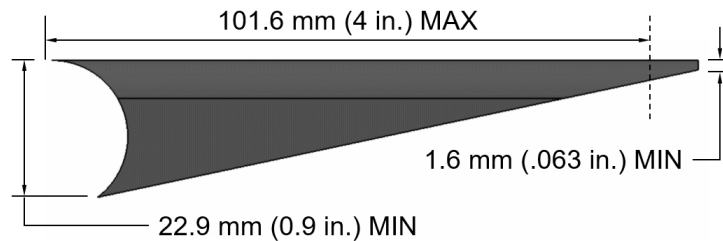

Figure B-42: Allowable Taper
3. Allowable cross section: Brackets shall have a “C” cross-section. The supporting gussets may be tapered as shown in Figure B-42, and shall be a minimum 22.9 mm (0.9 in) tall at the weld. Flat brackets are not permitted.